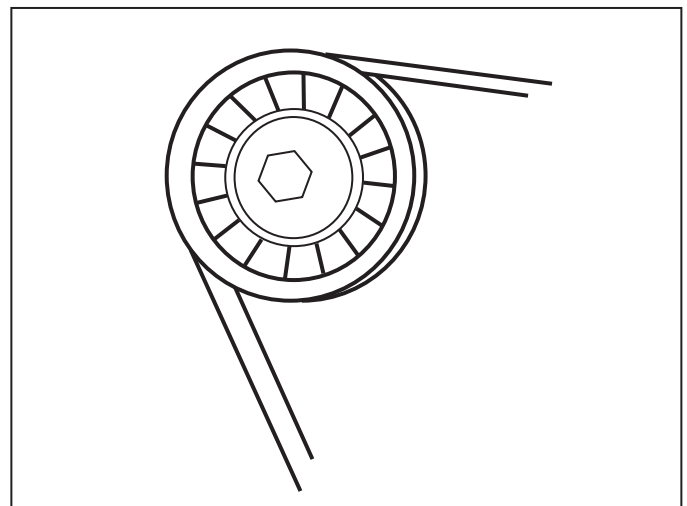

Figure 11-10 Belt Tensioner (6.0L)
4. Fill the engine with the recommended oil, see OIL REQUIREMENTS, through the oil fill location on the valve cover (Figure 11-10).